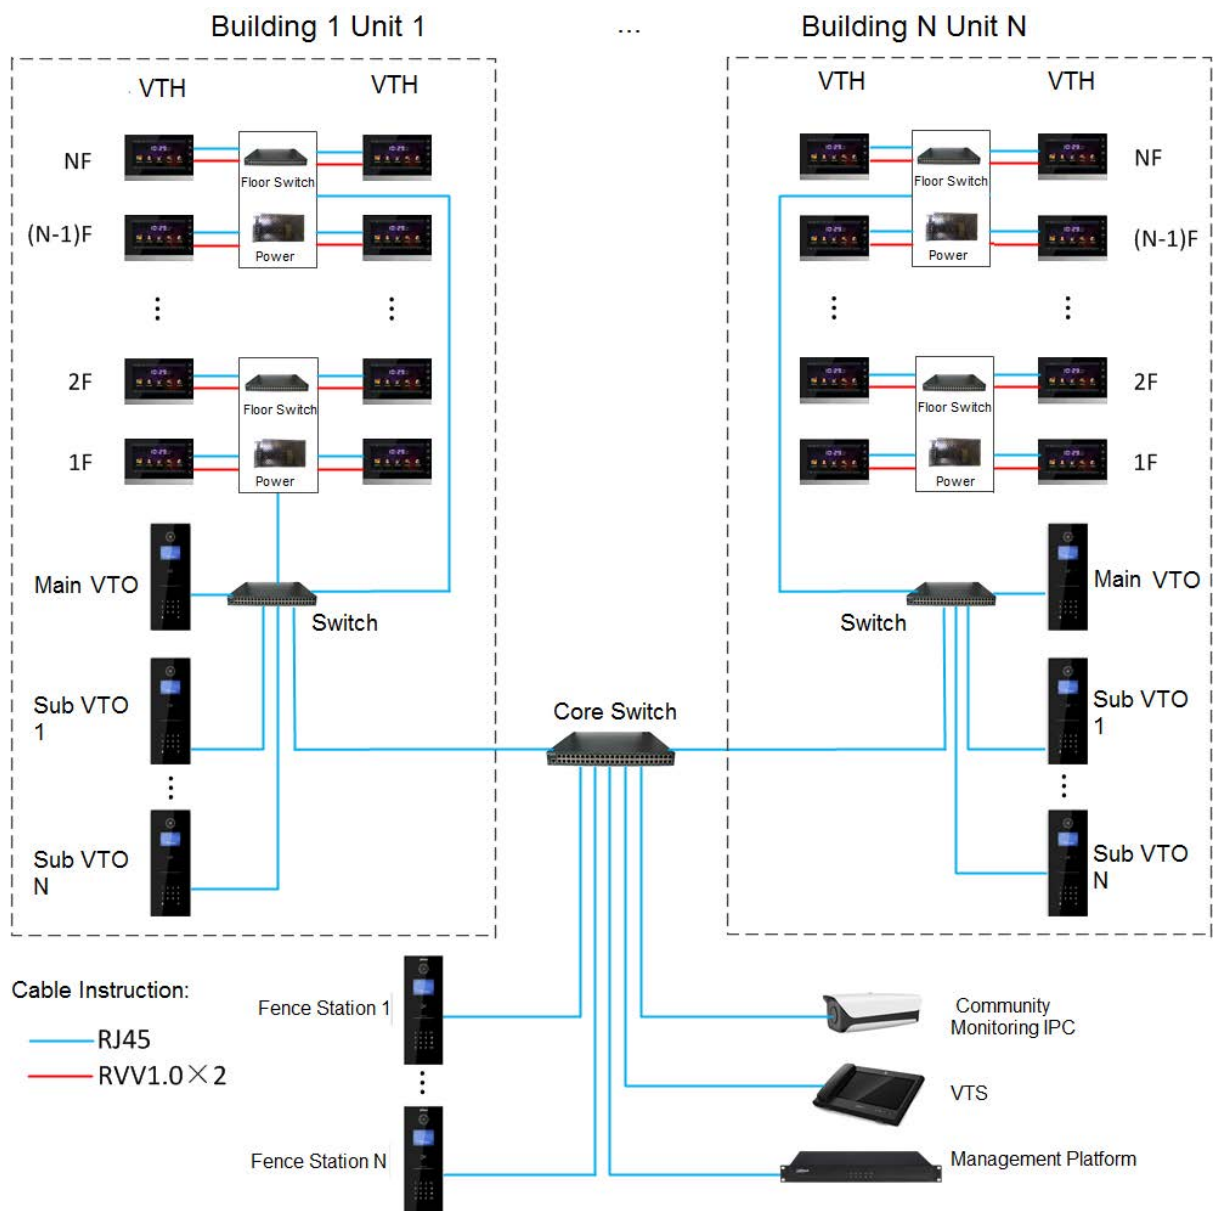

Figure 3-3
- VTH adopts independent power supply from power supply device, as shown in Figure 3-3.